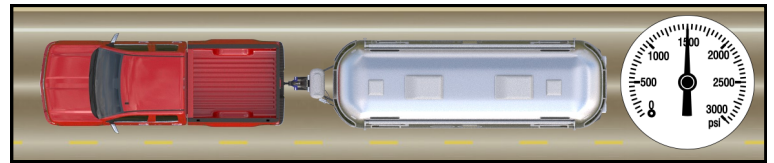

FIGURE L2: Truck and trailer in line (base line pressure)
2. **Pressure variability.** During towing and parking the hydraulic pressure will vary as the tow vehicle and trailer turn and pass over surfaces with varying heights, **as shown in Figures L2 - L5**. This is normal. **Do not adjust the cylinder pressure when the truck and trailer are turned or on surfaces with varying heights.**
3. **Add pressure to the hydraulic cylinder.** Before making any adjustments to the hydraulic cylinder pressure move to a smooth flat surface and align the tow vehicle and trailer in a straight line with one another, **as shown in Figures L2 & L6**. Stop, check, and adjust the hydraulic pressure as needed while towing.